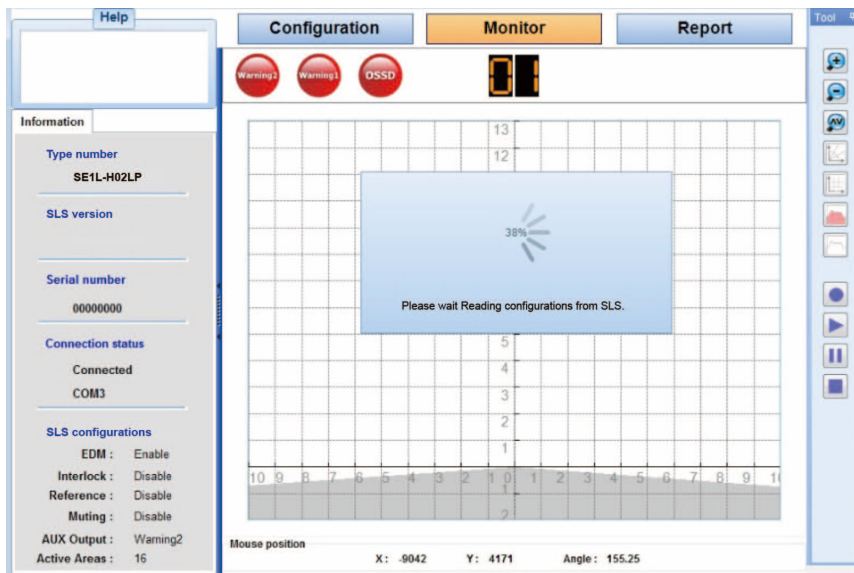

Figure 7-57. Reading configurations in progress
- d) When reading process is in progress, the window as shown in figure 7-57 will be displayed.